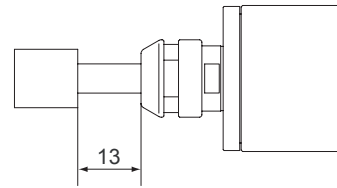

Fig. 15
- ① The proper surface speed for general grindstones is 10-30m / s.
- ② Do not exceed 13mm of overhang for mounted grindstones as shown in Fig. 15. If the overhang must exceed 13mm, reduce the motor speed in accordance with Table 3.
- ③ Dress the grindstone prior to use.
- ④ Do not use cutting tools with bent or broken shanks, cracks or excessive run-out.
- ⑤ For grinding, the maximum depth of cut should not exceed 0.01mm radially or axially. Reciprocate the tool several times after each pass to eliminate tool pressure.
- ⑥ Always operate cutting tools within the allowable recommended speed of the cutting tools. Use of a cutting tool outside of the allowable speed of the cutting tools could cause damage to the Spindle and injury to the operator.
- ⑦ Keep the cutting tool shank and collet chuck clean. If contaminants are left in the collet chuck or chuck nut, excessive run-out will cause damage to the cutting tool and or Spindle.
- ⑧ Do not strike or disassemble the Spindle.
- ⑨ Please set the cutting tools to minimize the overhang amount. 13mm is the maximum amount of overhang to maintain high accuracy and safety.